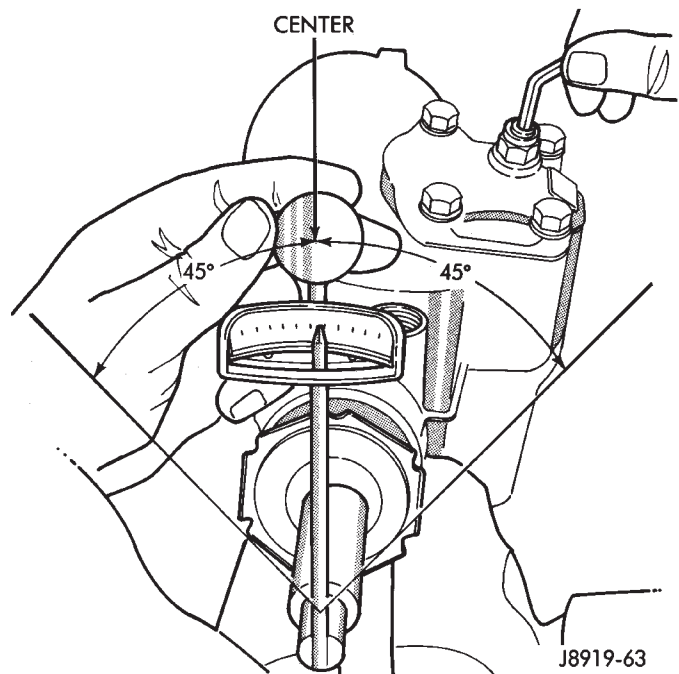

Fig. 31 Checking Over-center Rotation Torque
(3) Place the torque wrench in the vertical position on the stub shaft. Rotate the wrench 45 degrees each side of the center and record the highest rotational torque in this range (Fig. 31). This is the Over-Center Rotating Torque.